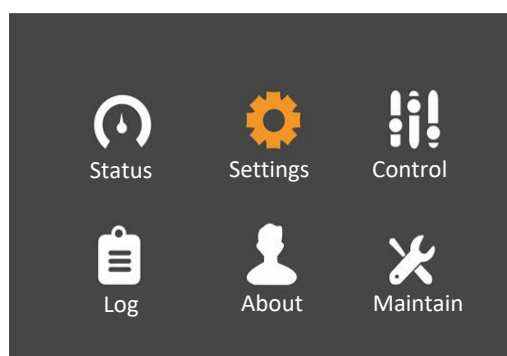

Figure 5-14 Main menu screen
1. At the main menu screen, press the  or  key to switch the cursor to select 'Settings', then press the  key to confirm it. See Figure 5-14.